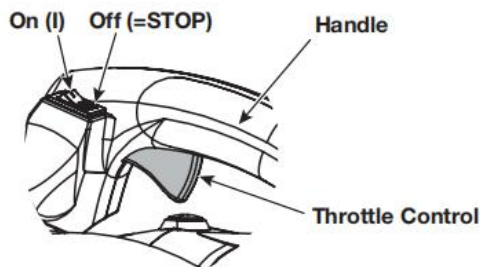

Fig. 5
- c) Push the ON/OFF switch on the ON (I) position. (Fig. 5).
- b) Press and hold the ON/OFF switch in the OFF (STOP) position until the engine comes to a complete stop (Fig. 5).